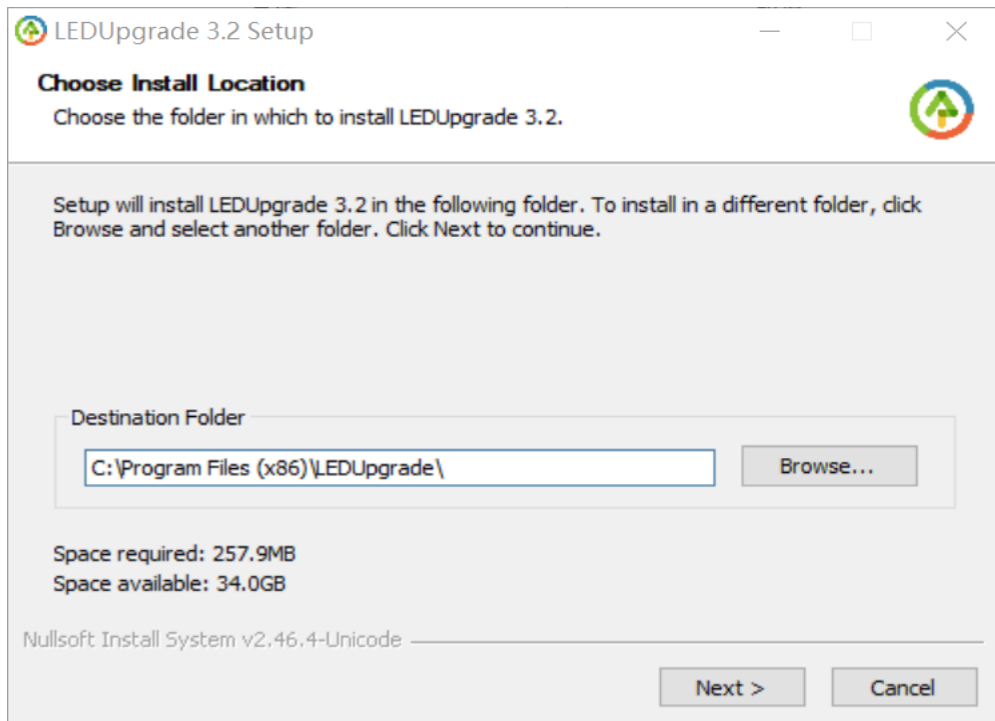

Fig. 2-2 Choose Install Location
2) Choose the installation location and confirm to install. Click on [Next] (as shown in Fig.2-2);